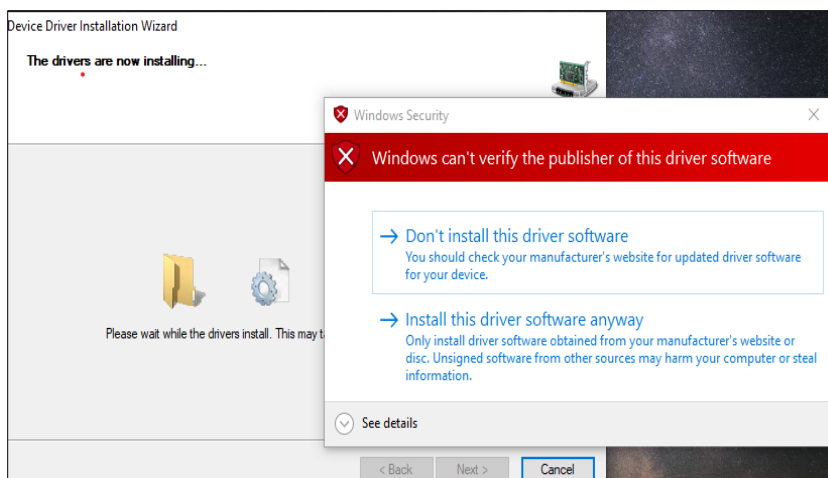

Figure 5.19. Windows Security in Driver Installation
8. If you receive a Windows Security prompt, select **Install this driver software anyway** as shown in Figure 5.19.